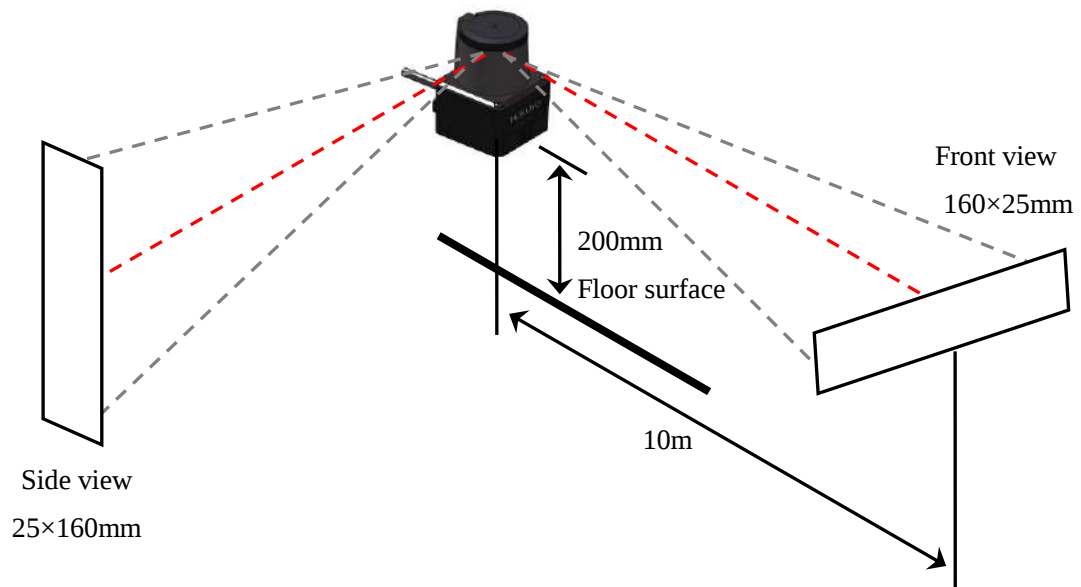

Fig.4 Size of laser spot
(1) Method of installation
- The laser spot of the UST is as shown in figure 4 the spread of laser spot differs on the front and side. Mount the sensor at height 200mm above the floor. When mounting below 200mm, incline 1° in upward direction.